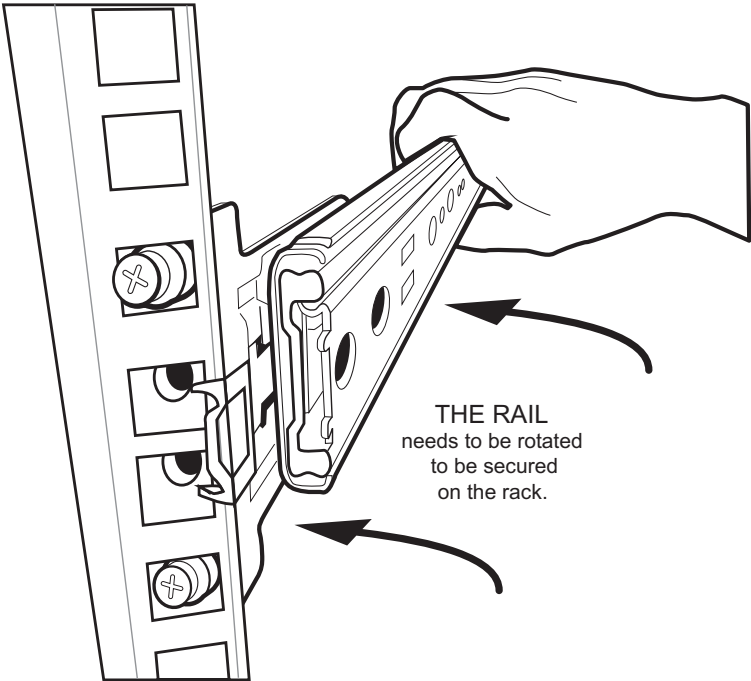

Figure 2.1 Securing the Slider Rail to the Front of the Equipment Rack
- 1a. Attach the front end of the slider rail to the front edge of the equipment rack. See figure 2.1 on page 13.